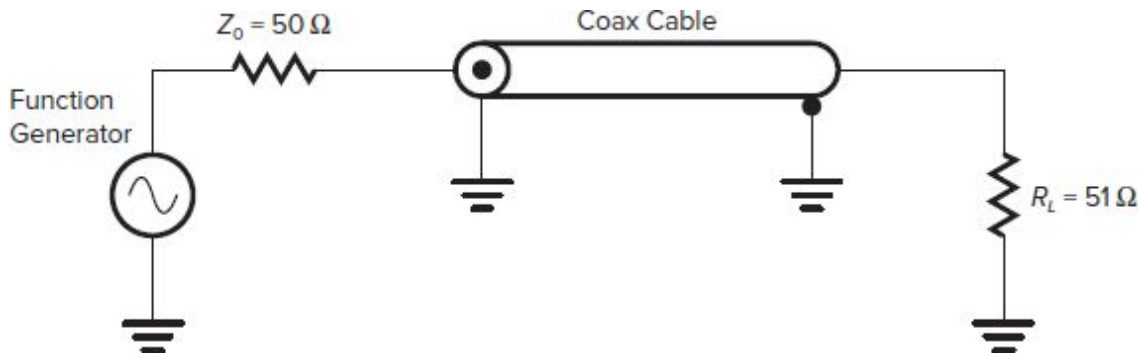

Fig. 8-9 Connecting the function generator to the load.
1. Set the function generator to supply a 2-MHz sine wave of 10 V_{p-p} with no load connected. Then connect a $51\text{-}\Omega$ resistor as the load. See Fig. 8-9. The cable connecting the function generator will be a coax cable with a characteristic impedance of $50\ \Omega$. Measure the voltage across the $51\text{-}\Omega$ load.